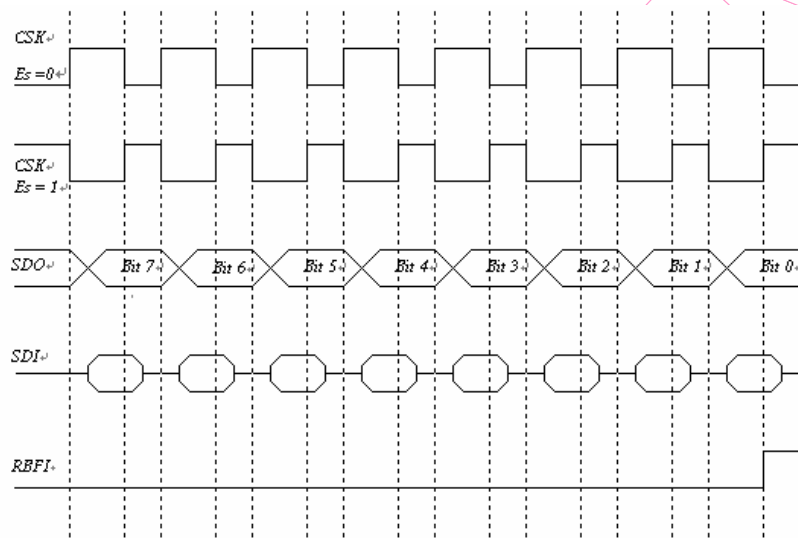
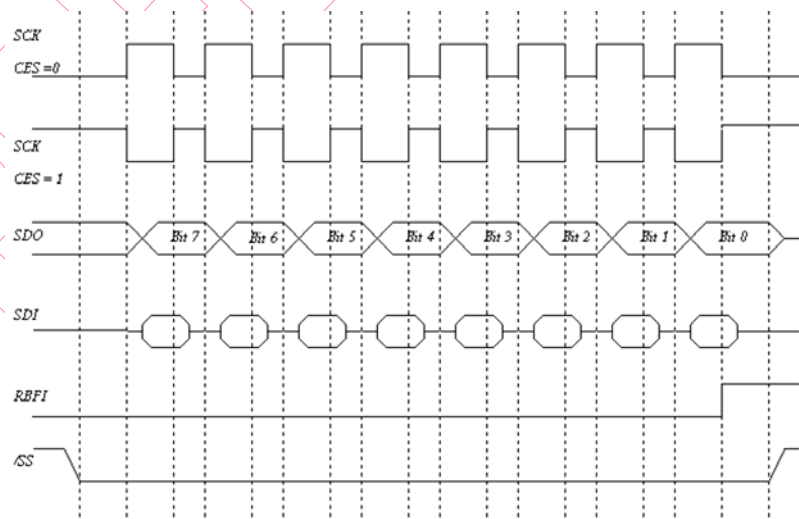

Fig. 6-12 SPI Mode with /SS Disabled
Fig. 6-13 SPI Mode with /SS Enable
- Timing is shown in Fig.6-12 and 6-13.
The edge of SCK is selected by programming bit CES. The waveform shown in Fig. 6-12 is applicable regardless of whether the EM78P350N is in master or slave mode with /SS disabled. However, the waveform in Fig. 6-13 can only be implemented in slave mode with /SS enabled.